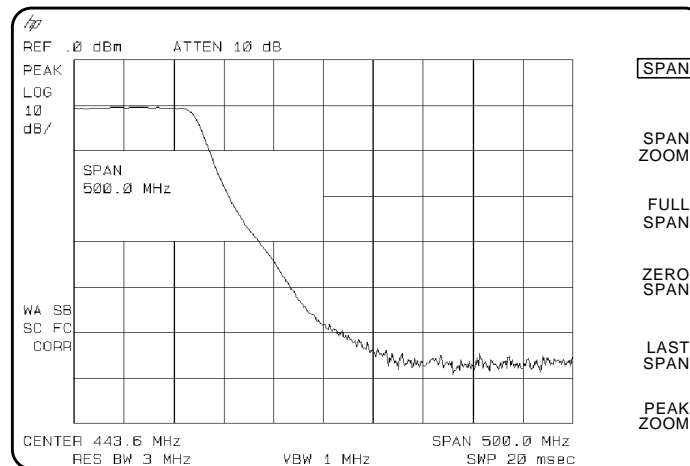

Figure 54 Spectrum Analyzer Settings According to the Measurement Requirement
- Since we are only interested in the rejection of the low-pass filter, tune the spectrum analyzer center frequency so that the roll-off of the filter comprises the majority of the trace on the display (see Figure 54).